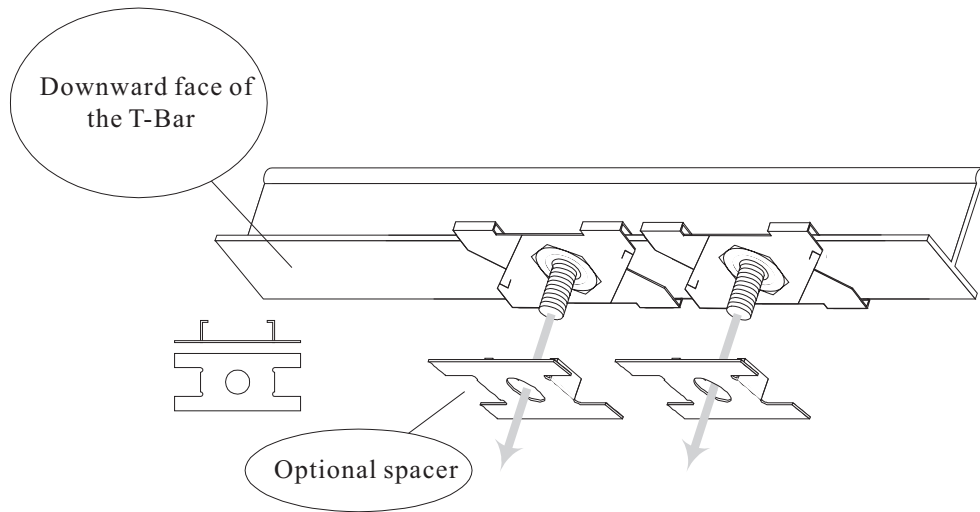

Figure 8: Installation Of Optional Spacer
- 8 Attach the antenna shrouds (Altitude 300-2i™) - If the plastic cover is going to be used attach the antenna shrouds to the antennas, see Figure 8: Antenna Shroud on page 16.